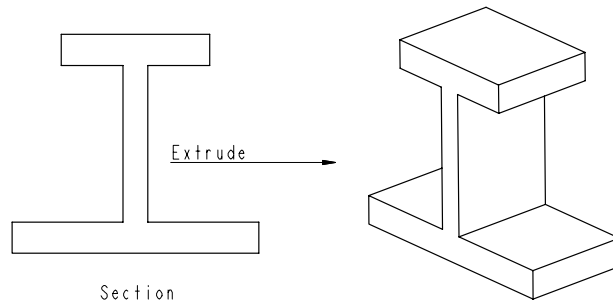

Figure 3-8 The I-section extruded to a certain depth
shown in Figure 3-8. Assume the dimensions. After the I-section is sketched, choose the **Continue with the current section** button from the **Sketcher Tools** toolbar.
9. From the dashboard, choose the green button. The required 3D model is displayed in the graphics window. However, it appears as a 2D entity. You need to change the display such that you can also view the depth of the model. Change the display of the part from the **View** toolbar by choosing the **Saved view list** button and selecting the **Default Orientation** option from the drop-down list that appears. Figure 3-8 shows the I-section after extruding it to a certain depth.